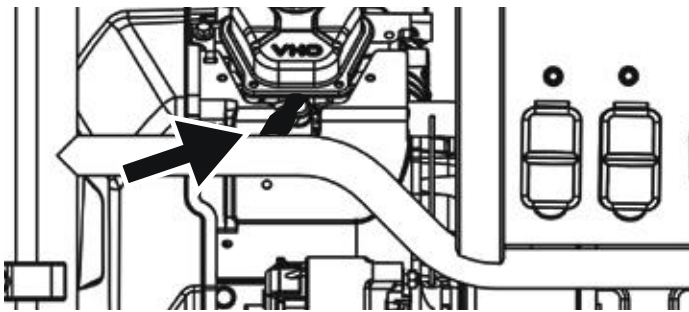

Figure 19 - Remove Spark Plug Boot
3. Remove the spark plug boot by firmly pulling the plastic spark plug boot directly away from the engine (see Figure 19).